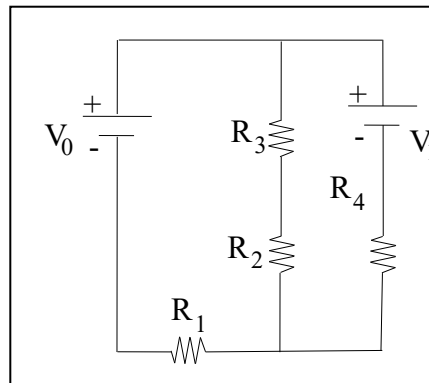

Figure 3
1. Add a second power supply to the circuit as shown in Figure 3.